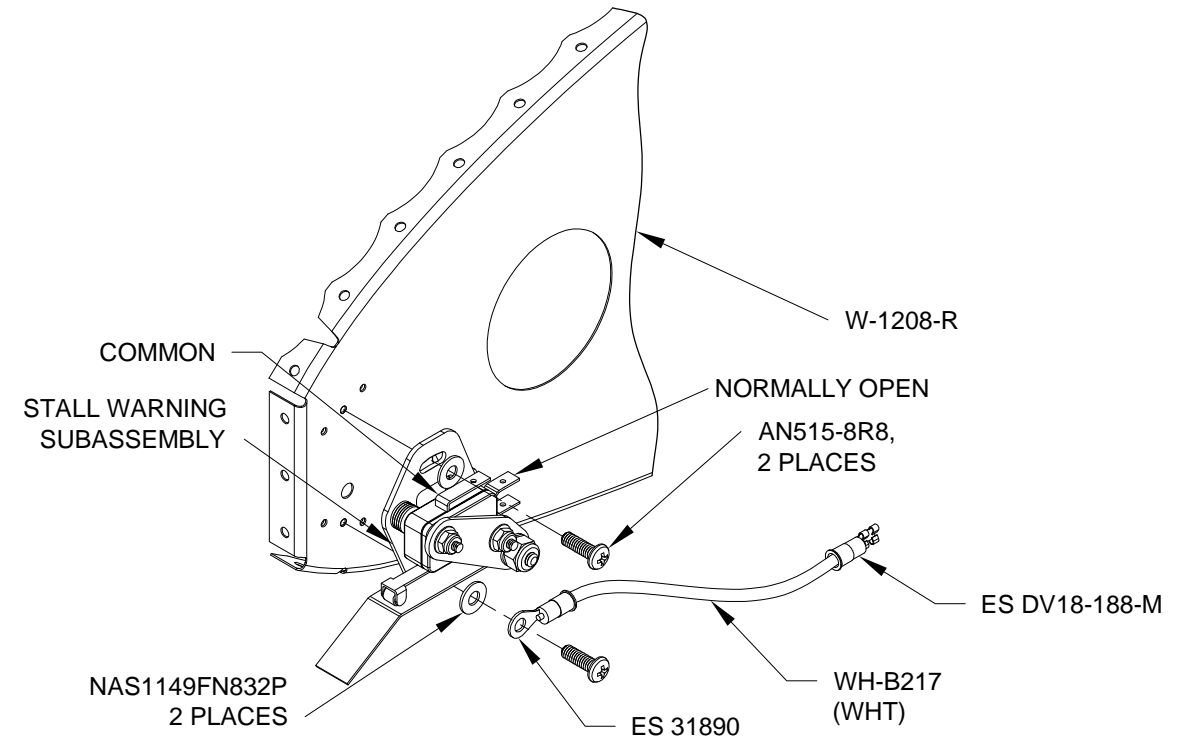

FIGURE 2: INSTALLING THE STALL WARNING SUBASSEMBLY
Step 6: Install the Stall Warning Subassembly on the W-1208-R Nose Rib as shown in Figure 2.
The lower screw passes through the ES 31890 Ring Terminal on the WH-B217 (WHT) Ground Wire as shown in Figure 2.